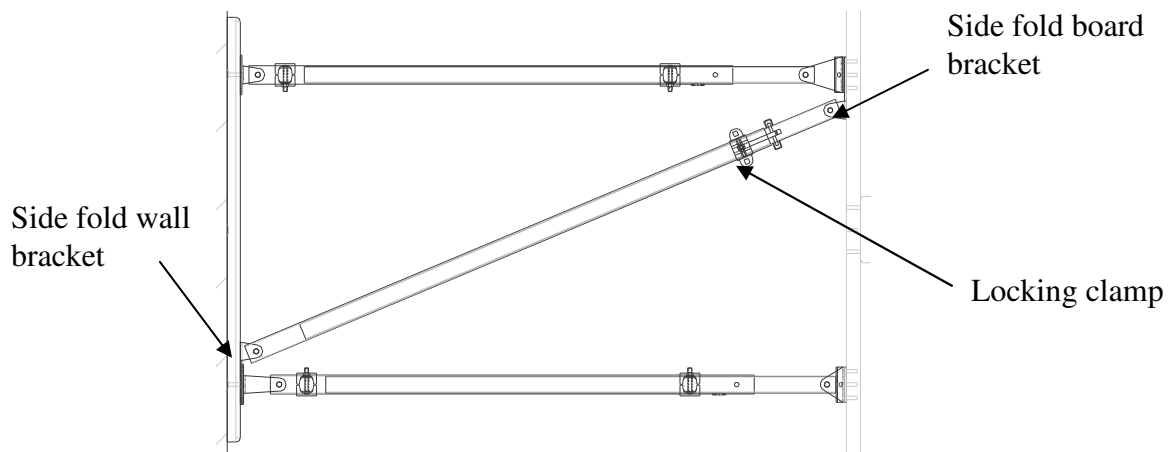

Figure 6. Slide pipe installation showing hinge brackets; slide pipes, and locking clamp.
- 14) Next, slide the other end of the slide pipe into the remaining side fold bracket and secure with the 1/2-13 x 3 hex bolt and 1/2-13 lock nut provided, (as shown in figure 6).